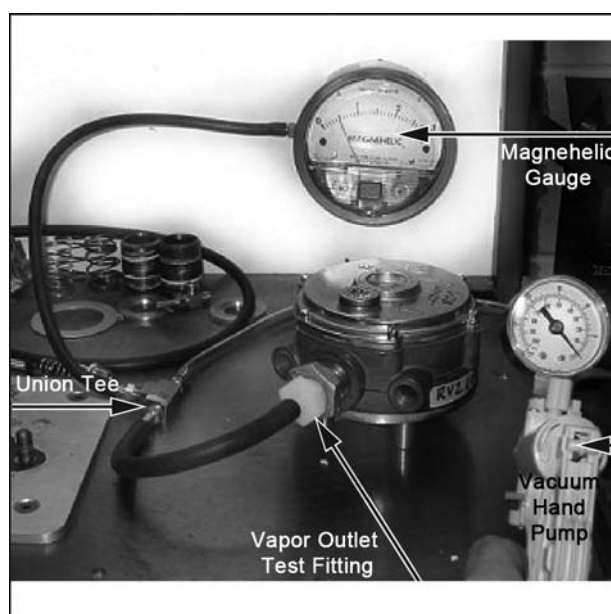

Figure 30. Secondary Stage Test Connection
1. Connect the vacuum pump, the Magnehelic gauge and the regulator vapor outlet to the Union Tee fitting (Figure 30). Make sure there is no leakage at any of the fittings.